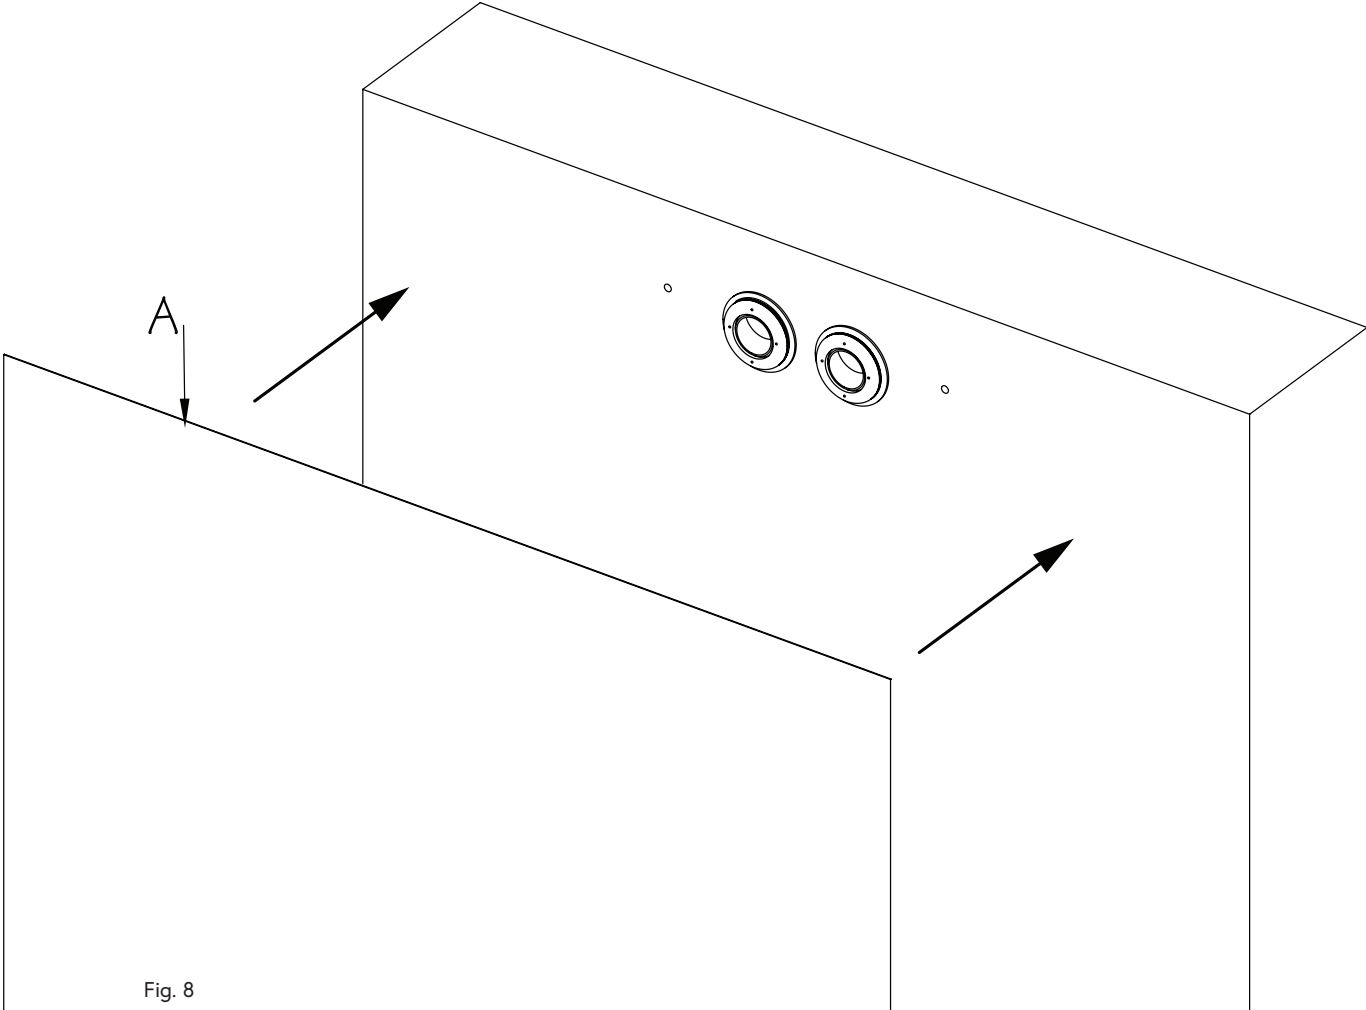

Fig. 8
7. The pool Liner (A) should be installed at this time (Fig. 8).